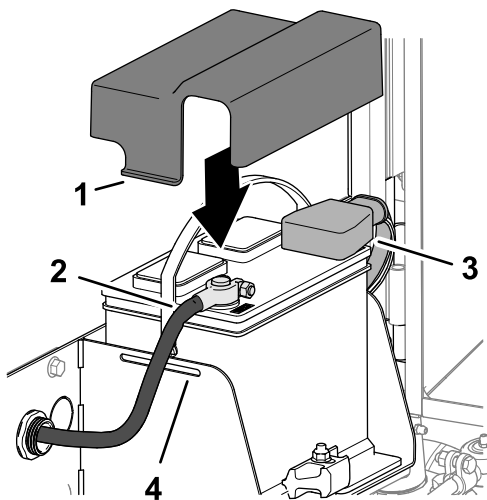

Figure 97
1. Install the positive battery cable (red) to the positive (+) battery post (Figure 97).